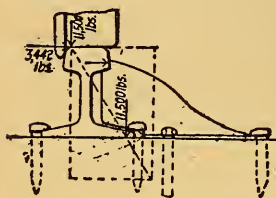

FIG. 57.
6. Referring to Fig. 57, it is seen that of the two forces acting on the head of the rail, the vertical one is by far the greater of the two.